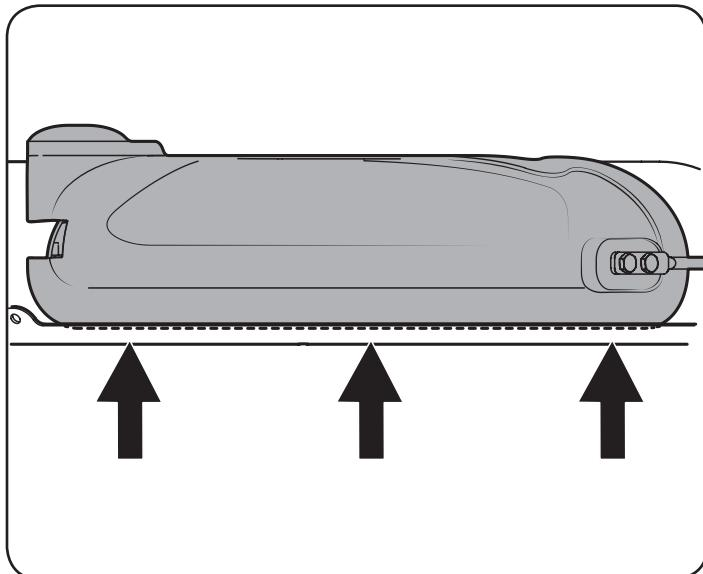

Figure 5
- To install the mulch plug, pivot the discharge chute upward. Refer to Figure 5.